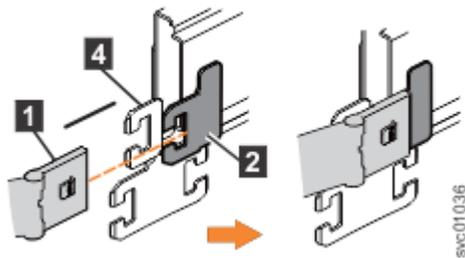

Figure 74. Install the inner connector of the upper CMA to the inner member of the support rail
2. Install the inner connector of the upper CMA assembly (1) to the inner member of the left support rail (2), as shown in Figure 74 on page 70.